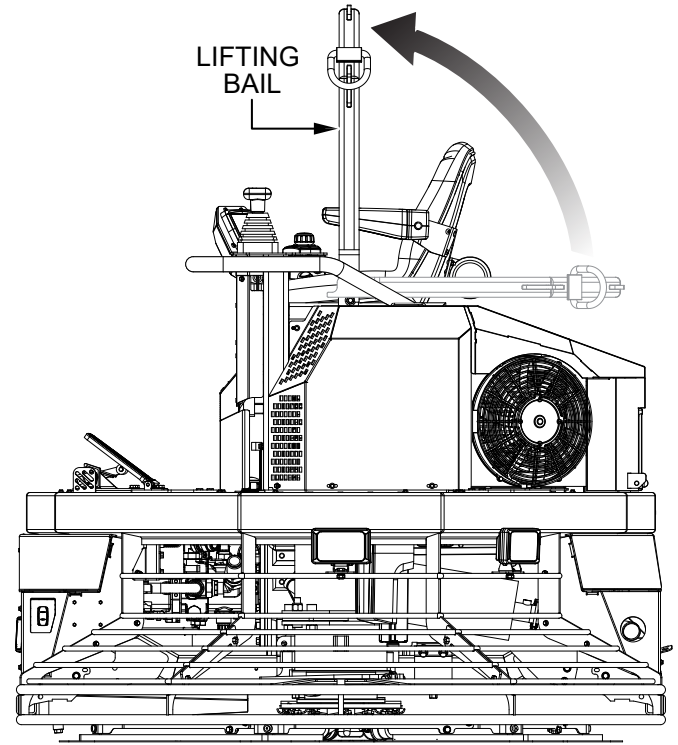

Figure 5. Lifting Bail (Upright)
1. Make sure the lifting bail is in the upright position (Figure 5).